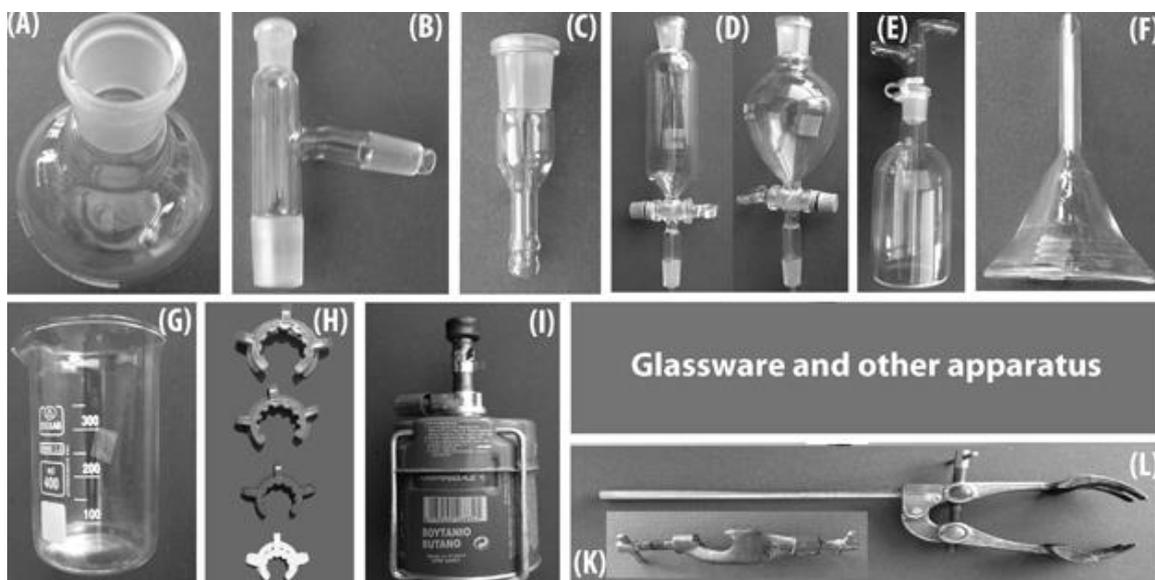
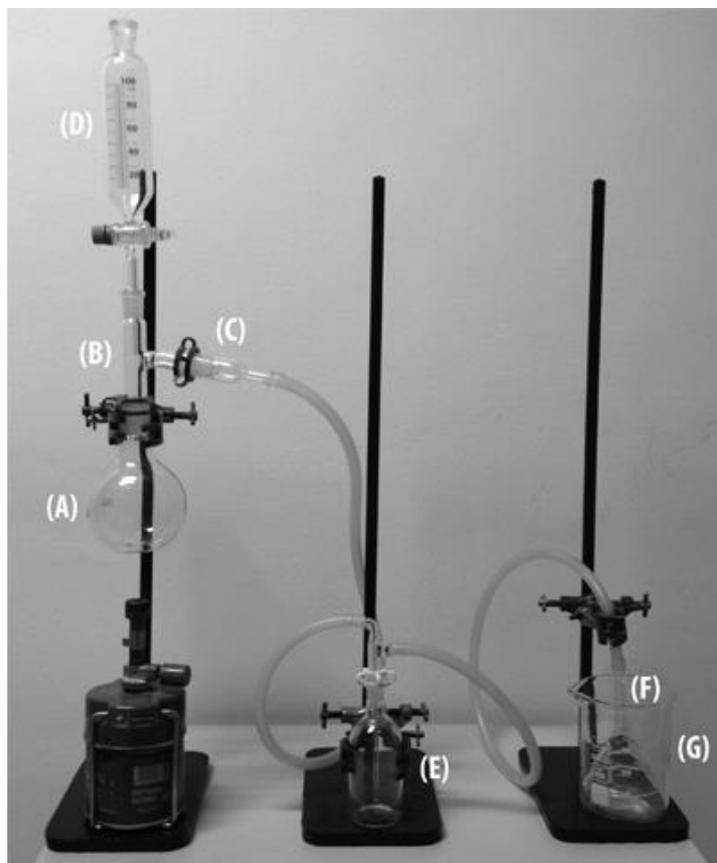

Figure 1: Photos of the glassware and other apparatus that will be used for the experiment. (A) Round bottom flask
Figure 2: The experimental set up for the purification of NaCl.
2.1. Weigh 37 g of impure NaCl and add to the 250 mL beaker which contains 100 mL distilled water (solubility of NaCl is 35,7 g /100 mL H₂O at 20°C). Stir until the NaCl dissolves, forming a saturated solution. If some insoluble residue remains, decant the solution into another beaker of 400 mL volume (**beaker G in Figure 1**).
2.3. Add 40 g of cooking salt to the round bottom flask (**flask A in Figure 1**) and then place the tube adapter (**B**) on the opening of the round bottom flask using the green colored fastener. **Every time you connect joints, use a small amount of vaseline.** Then assemble the apparatus as shown in **Figure 2**. **This must be done in the fume hood.** Follow the detailed instructions given below.
We place a sodium chloride solution of mass concentration ρ_A into a container. We submerge two identical metal plates (**electrodes**) into the liquid. We have built an **electrolytic device** (Figure 1).